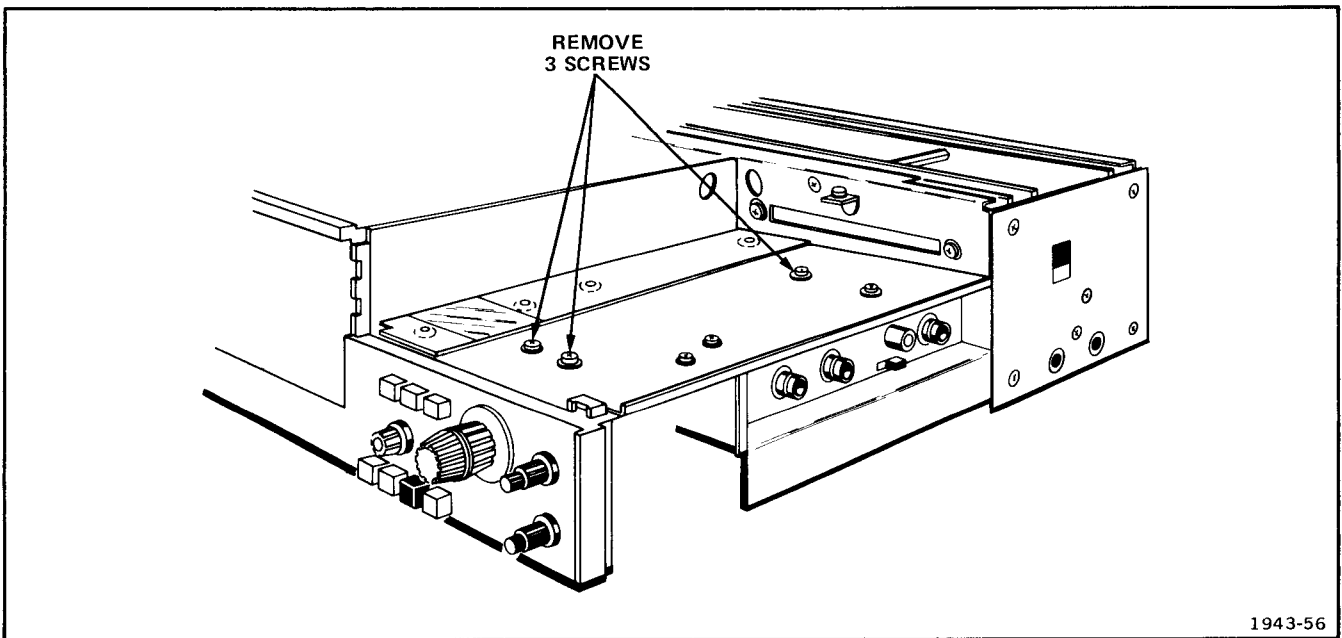

Fig. 4-8. VOLTS/DIV-switch cam removal.
See Fig. 4-8 for the locations of the screws and wires mentioned in this procedure.
3. Remove three screws (see Fig. 4-8).